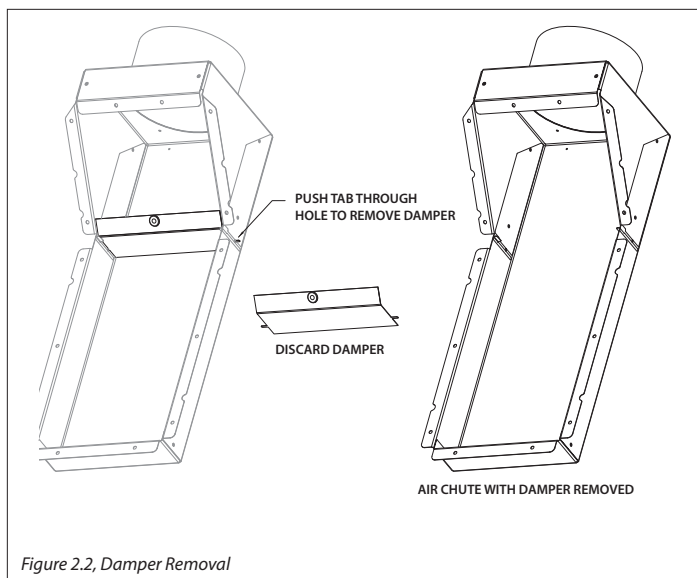

Figure 2.2, Damper Removal
3. Remove the damper from the heat transfer kit air chute by pushing the metal tab through the hole and pulling the damper out of the air chute. See Figure 2.2. Your air chute may look different than the one shown. Attach the HTK air chute to the fireplace as per instructions included with HTK air chute.